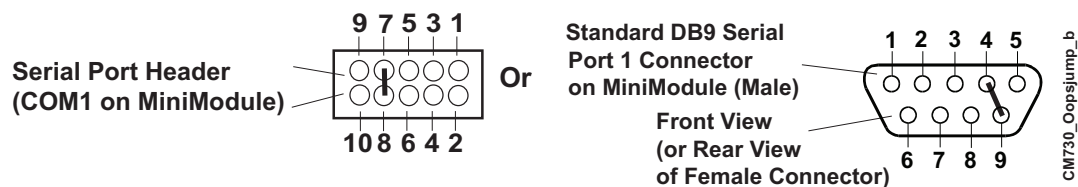

Figure 3-1. Oops! Jumper
To convert a standard DB9 connector to an Oops! jumper, short together the DTR (4) and RI (9) pins on the rear of the female connector or the front of the male connector as shown in Figure 3-1 on the Serial Port 1 DB9 connector.
NOTE Serial Port 1 (on the MiniModule) is a 10-pin header and uses pin 7 = DTR and pin 8 = RI for the Oops! Jumper. At Serial Port 1, short pin 7 to 8, as shown in Figure 3-1. Alternatively, you may short the equivalent pins (4 to 9) on the DB9 connector attached to Serial Port 1 as shown in Figure 3-1.